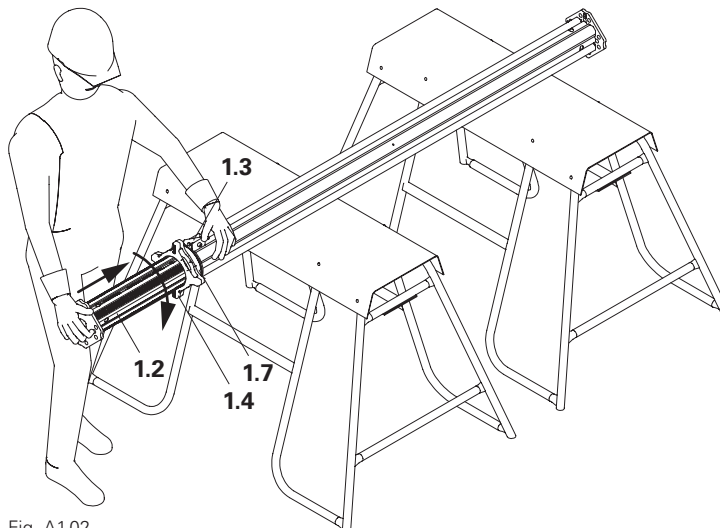

Fig. A1.02
4. Push in the Inner Tube until the adjusting nut is lying against the rubbing plate (1.7). (Fig. A1.02)